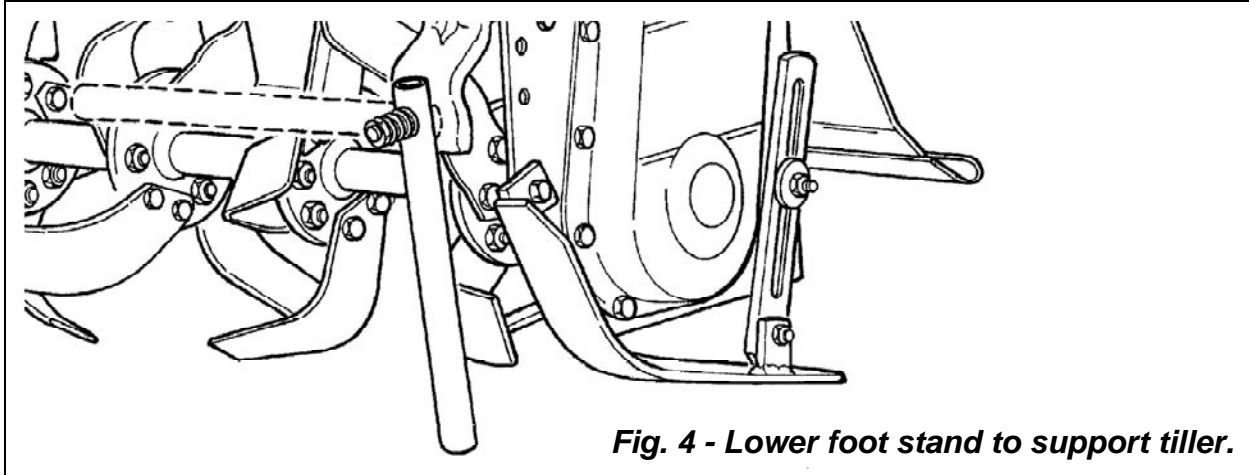

Fig. 4 - Lower foot stand to support tiller.
4. Be sure that the stand is held firmly in place, it should be able to swing down with the spring holding it in position to support the tiller without tipping over (**see fig. 4**).